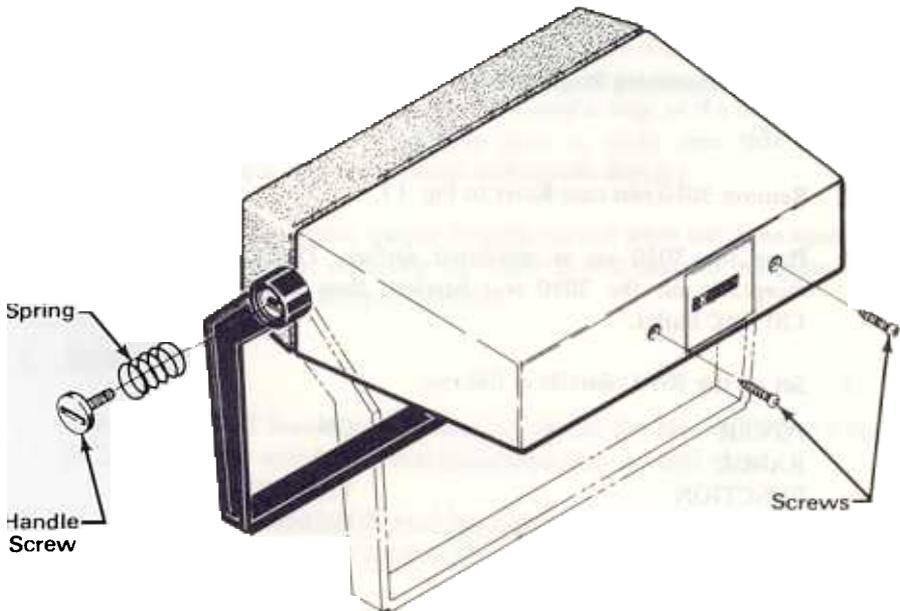

Fig. 17. Removal of rear case.
- Use a coin (a quarter works best) to remove the two screws that hold the handle to the case. Use caution to avoid losing the springs beneath the screws that hold the handle on the case. Remove the handle. The handle may be reversed if the user desires; refer to Fig. 17.
Remove 3010 rear case Refer to Fig. 17.
8. Disconnect the scope probe and counter from the 3010 600 Ω OUTPUT. Carefully re-install the rear case (refer to Fig. 17)
- Remove case (Fig. 17).